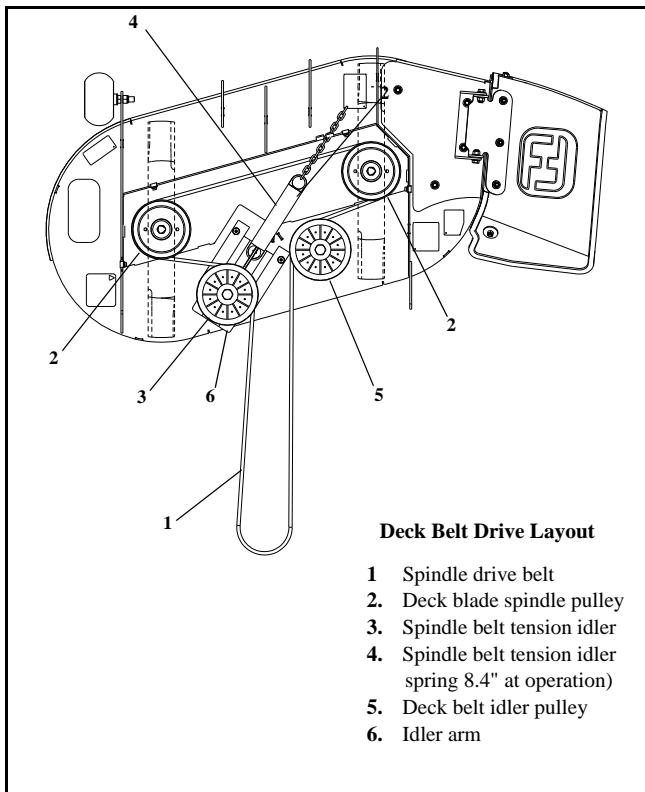
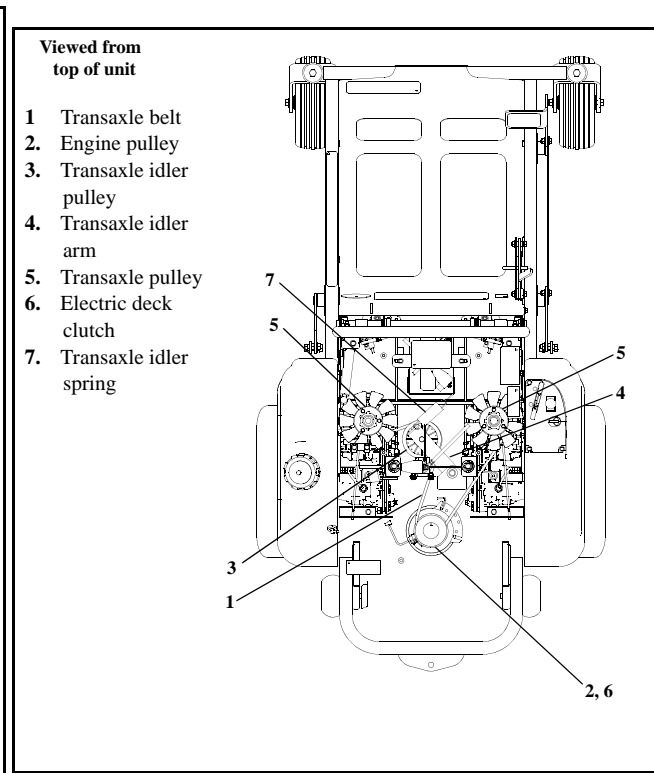

FIG. 25
FIG. 26
FIG. 25 and FIG. 26 show diagrams and descriptions of the unit's belt drive systems.
7. Route the new belt per FIG. 25.
- Release the tension from the transaxle belt by pulling on the idler pulley (extending spring carefully) and sliding the belt over it. Use caution when releasing the idler pulley as there is still tension on it and it will snap back into position (FIG. 26).